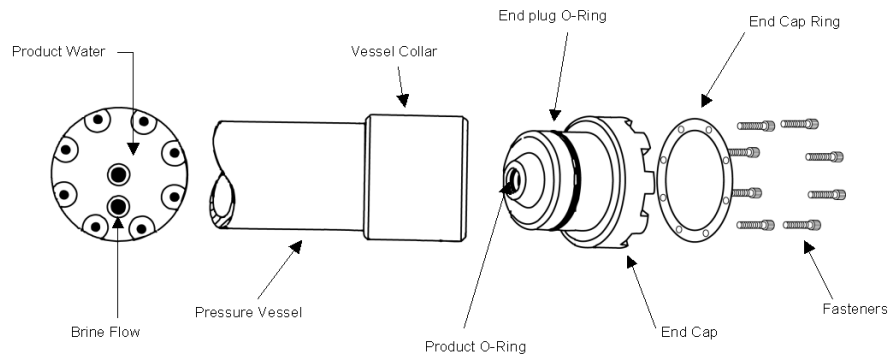

Figure 6.1 - Pressure Vessel End Plug Assembly Callout.
**Step 1:** Inspect all O-Rings; product O-Rings, end plug O-Rings, and Brine seal. Replace O-Rings if there is visible damage. The product water O-Rings are internal O-Rings, inside the center hole in the end cap. Refer to Figure 6.1.